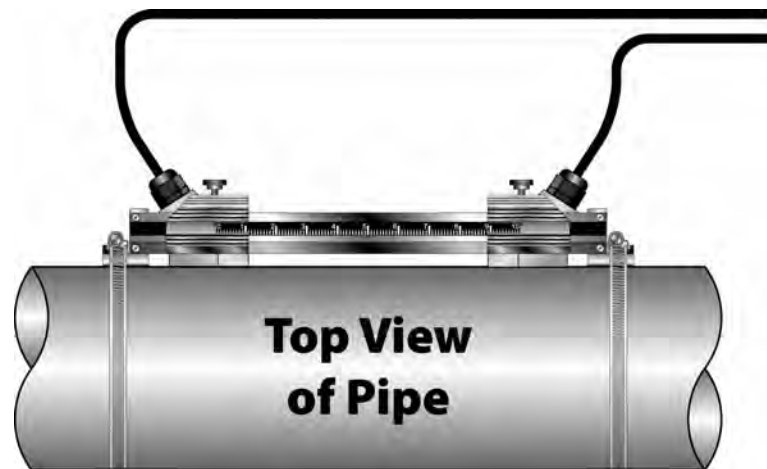

Figure 2.10
5. Place the first transducer in between the mounting rails near the zero point on the scale. Slide the clamp over the transducer. Adjust the clamp/transducer such that the notch in the clamp aligns with zero on the scale. See **Figure 2.10** on page 2.17.